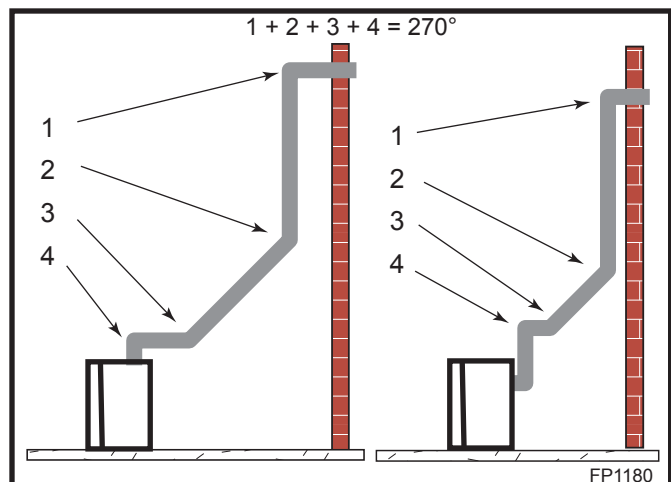

Fig. 32 Maximum elbow usage.
- The maximum number of 45° elbows permitted per side wall installation is two (2). These elbows can be installed in either the vertical or horizontal run.
- The maximum number of elbow degrees in a system is 270°. (Fig. 32)